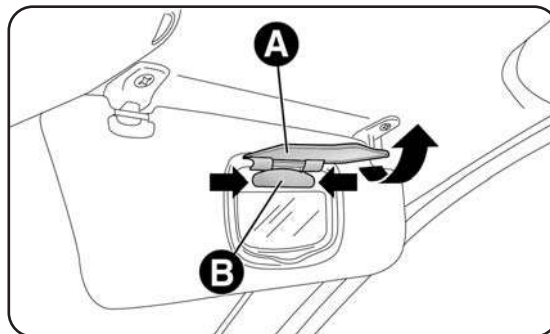

fig. 35
- open the cover A - fig. 35 on the mirror;